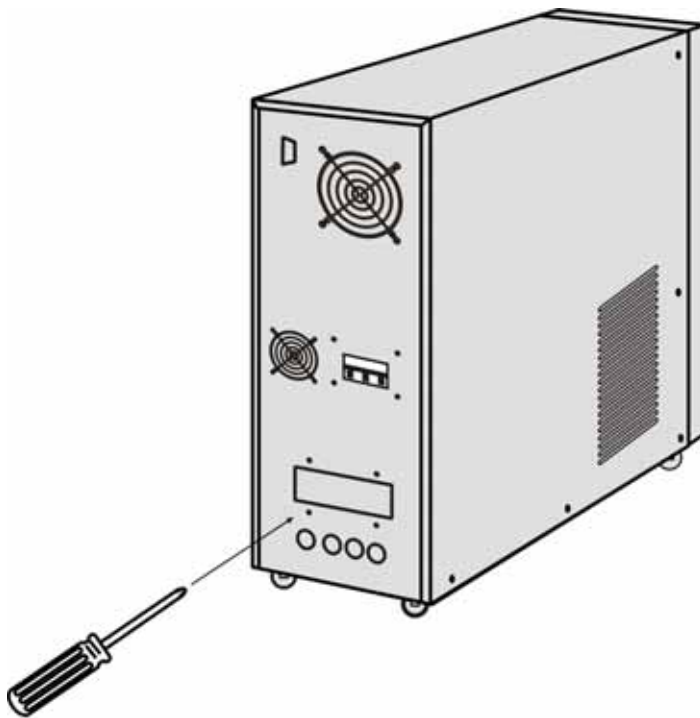

Figure 12
- (1) Remove two screws with “+” screw-driver (Figure 12)